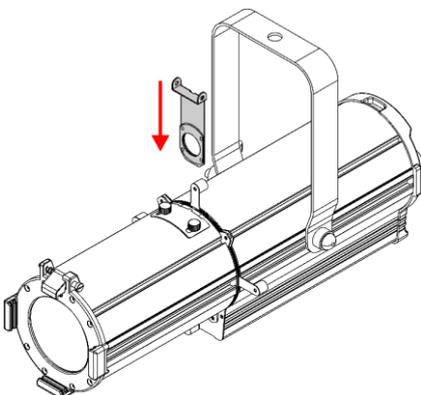

Fig. 13
- 04) Change the gobo in the **gobo holder (08)**. See **Changing the Gobo** on page 12 for more information.
- 05) Insert the **gobo holder (08)** back into the gobo slot (see Fig. 13).